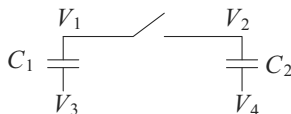

Figure 16.71 Circuit for Problem 16.6.
- 16.6** In Fig. 16.71, if the top plate of capacitor C_1 is initially charged to V_1 and the top plate of capacitor C_2 is initially charged to V_2 , estimate the final voltage, V_{final} , on the top plates of the capacitors after the switch closes.